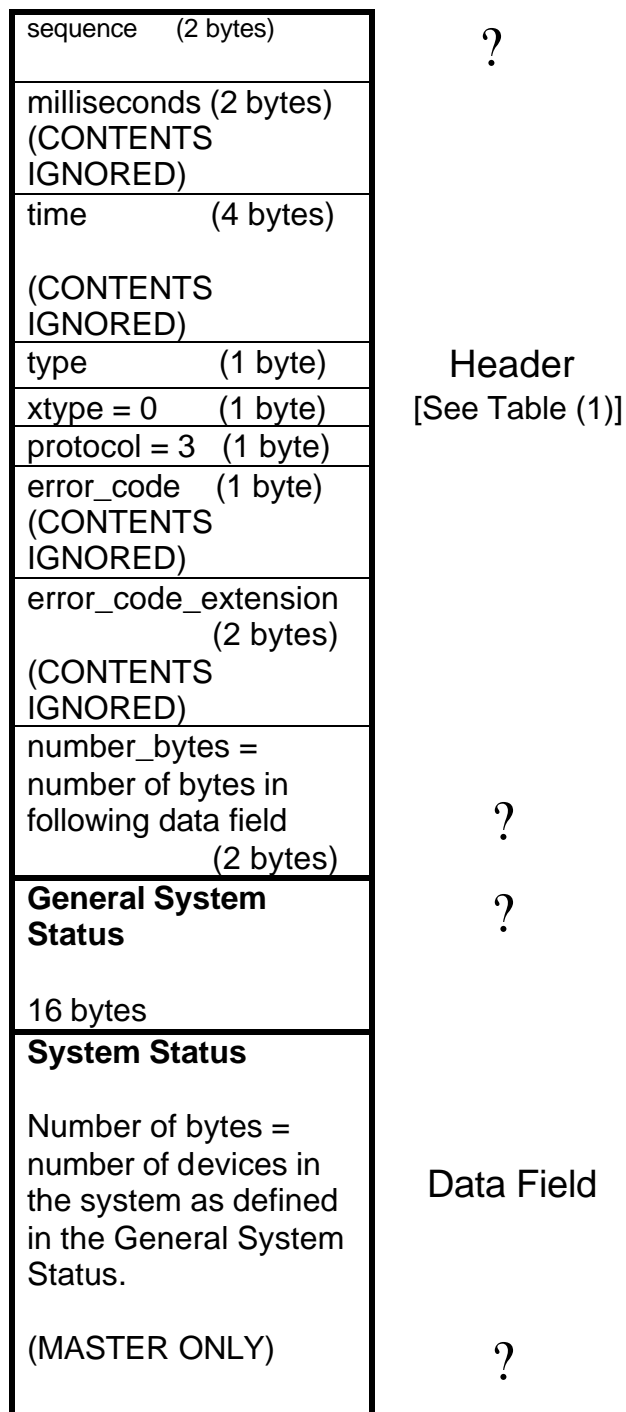
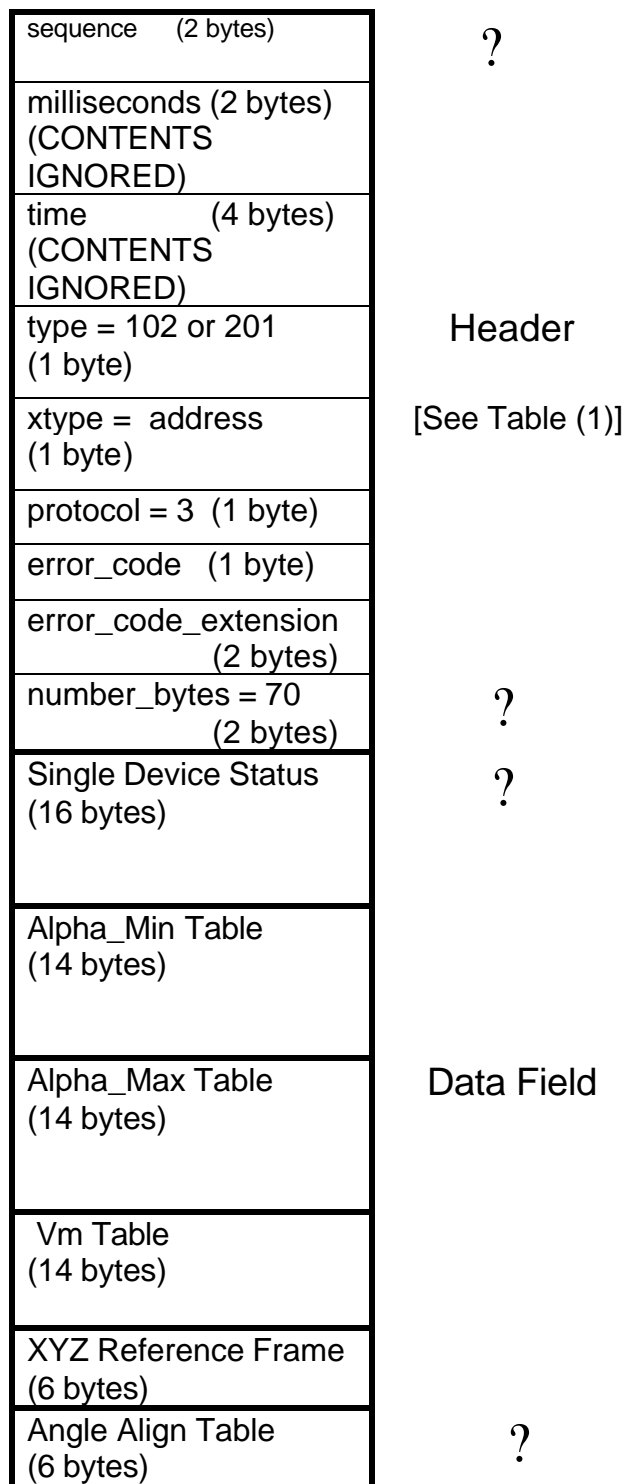

Figure 10. BirdNet System Status Record Format
Figure 11. BirdNet Individual Device Status Packet Formats
**RSP\_GET\_STATUS** (See Figures 10 and 11)
This message is issued in response to the request for status command MSG\_GET\_STATUS. The data field of the packet returned will contain the system status (Figure 10) if the request contained an **xtype** code of **0**. Otherwise, the data field will contain an individual device's status (Figure 11) and filter and angle table where the xtype code was set to the address of a specific device. The xtype field of the message response will be same as the value placed in the original request message.
This record format is only used when xtype = 0 (Get System Status). Otherwise Figure 11 is used for the individual device status.
### (1) System Status (See Figure 10)
**(2) Individual Device Status** (See Figure 11)